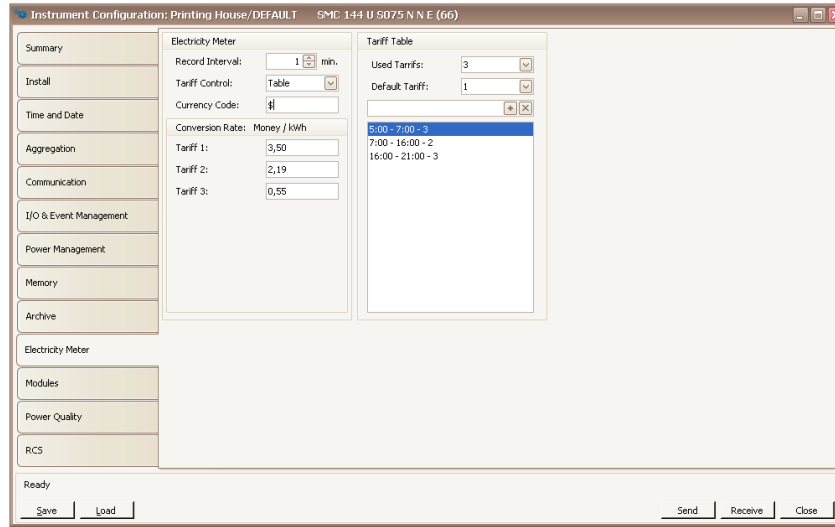

Figure 17: ENVIS.Daq - electricity meter configuration panel - tariffs, prices, etc.
2.3.8 Electricity meter (fig. 17)